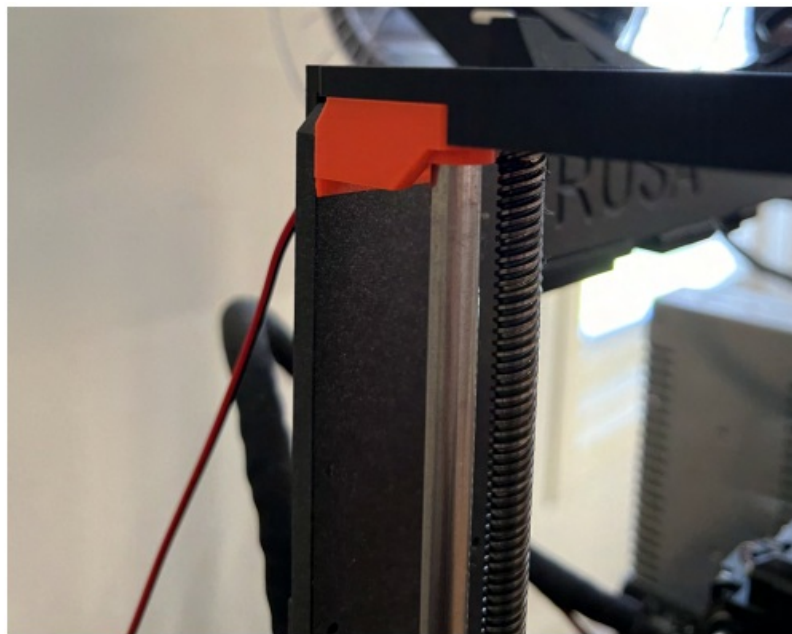

Figure 4: Mounted arm.
- Ensure the arm sits flush against the holder, as shown in Figure 4, taking care not to pinch the cable.